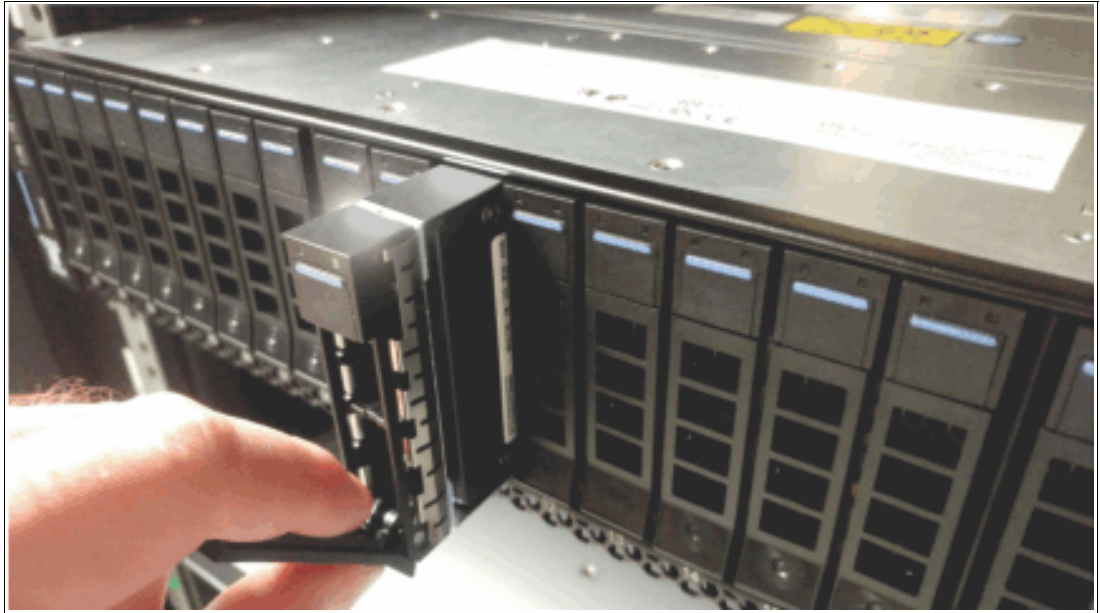

Figure 5-10 Insert NVMe drive
5. Have new NVMe drive ready to install (Figure 5-10).